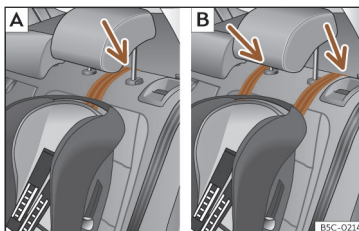
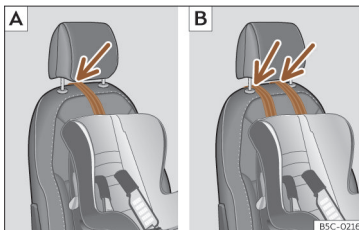

Fig. 44 Rear seats: adjustment and assembly according to the Top Tether belt.
Fig. 45 Passenger seat: adjustment and assembly according to the Top Tether belt.
- Position the belt under the headrest (according to the instructions of the seat itself, lift or remove the headrest if necessary) >>> Fig. 44, >>> Fig. 45.